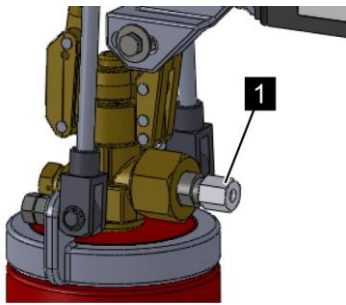

Fig. 79: Connecting the pilot line
38. ➤ Connect the pilot line on the control connection (Fig. 79/1) of the valve.